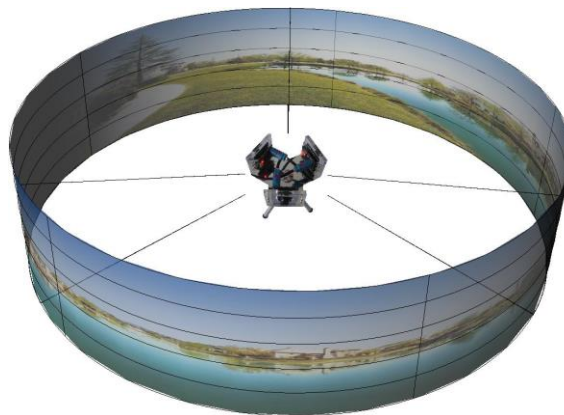

Figure 4: Panoramic View Camera Example
LogiVIEW can be used in automotive Driver Assistance (DA) applications, such as the Multi-Camera System for Surround View DA (Figure 3), Heads-Up Displays (HUD), Lane Departure Warning, Rear-View (Back-Up) and others. Due to its high versatility and configurability, it can be also used in other single or multi-camera applications, such as medical endoscopy, surveillance systems (Panoramic 360° View camera – Figure 4), defense equipment, etc. High accuracy, provided by Xylon's patented camera position calibration and highly accurate lens calibration, of the surround view system allows for it to be used as a base for automated parking applications.